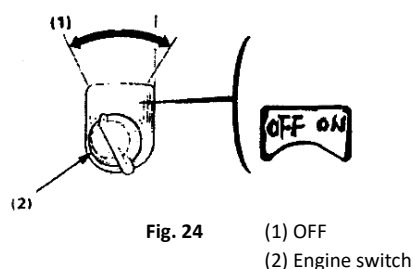

Fig. 24
- 3) Turn the engine switch to the OFF position. (Fig. 24)